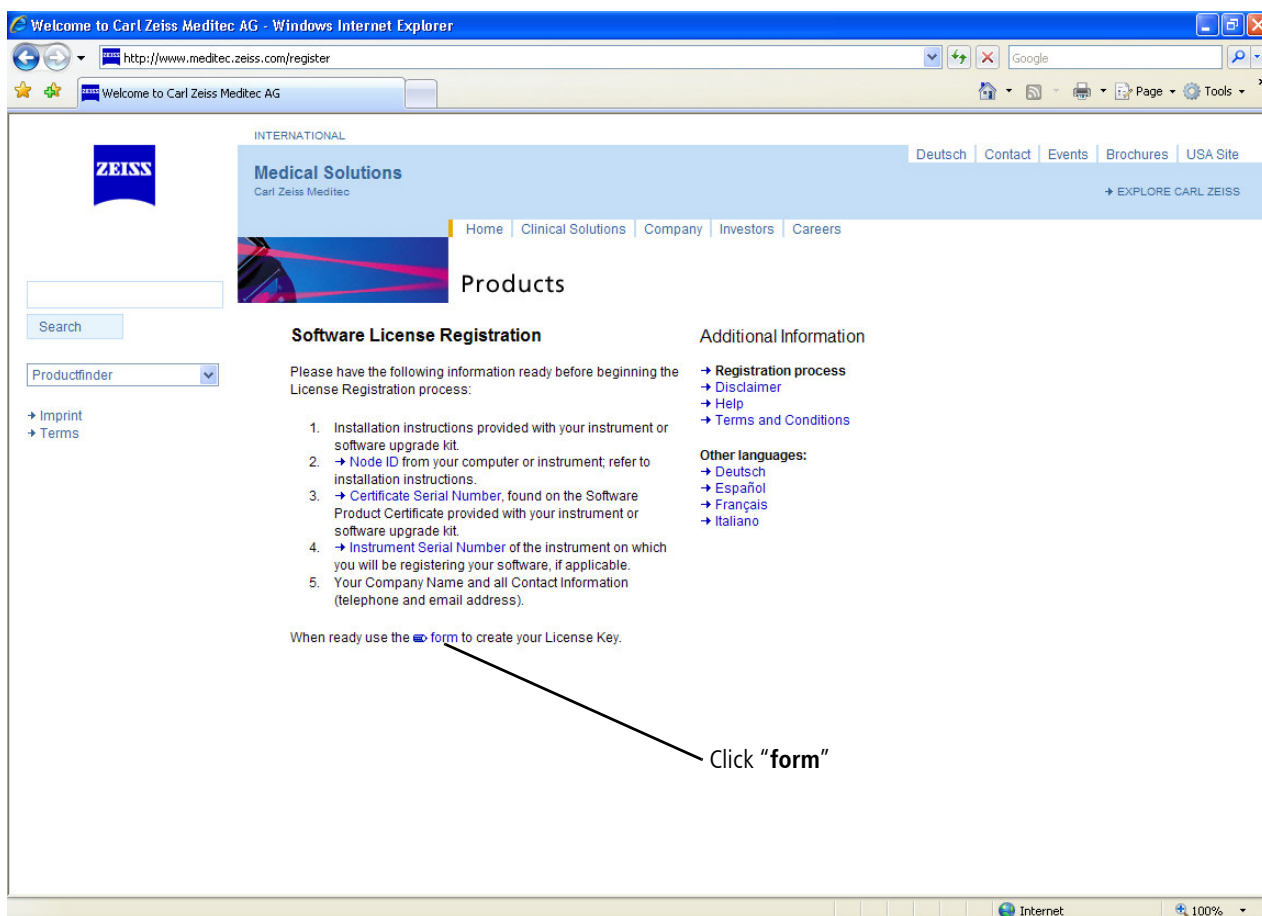

Figure 19 Carl Zeiss Meditec Software License Registration Page on the Internet
6. Go to the bottom of the page, where it says: "When ready use the form to create your License Key" and click on the word "form" (See Figure 19 below).